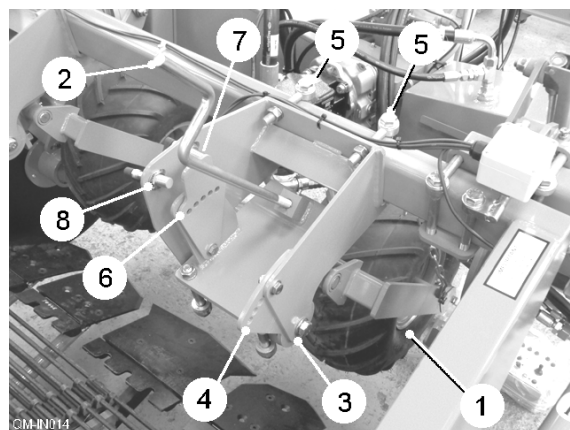

Fig. 5
The depth wheels (item 1, fig. 5) running on each ridge control the share depth. Their setting is very important to the effective operation of the harvester. The handle (item 2, fig. 5) sets the working depth of the wheels. Turning the handle clockwise decreases the digging depth, turning the handle anticlockwise increases the digging depth.
The wheels are mounted on rubber torsion springs (item 3, fig. 5) which allow the weight to be carried off the wheels to reduce compaction of the ridge, or for additional pressure to be put on the ridge to consolidate it in light conditions when the flow over the shares is poor.
The pressure setting needs to be made when the machine is in work so that the relative working position of the depth wheel to the ridge is correct. By repositioning the pressure-setting quadrant (item 4, fig. 5), weight can be removed from the depth wheel, or extra pressure can be added to the wheel.
Row width settings are adjusted by loosening the clamp bolts (item 5, fig. 5), and sliding the wheel assembly until positioned centrally over the ridge. Repeat for the other wheel ensuring they are set symmetrically about the centre line of the machine.
The AUTO DEPTH function, when activated, automatically lowers the digger until the depth wheels rest on the ridge. As the ridge height changes, the edges of the target plate (item 6, fig. 5) rotate in front of the proximity sensors (item 7 & 8, fig. 5) which then actuate the LH and RH depth rams independently to maintain the correct digging depth in each row.
Initial depth setting should be made with the machine on a firm level surface. Place a 10" (250mm) spacer block under each depth wheel and lower the digger until the shares touch the ground. In this position, adjust the target plate Item 6, fig. 5) to be central between the proximity sensors (item 7 & 8, fig. 5). To allow for a dead-band zone, the sensors are each mounted in a slot. To increase the dead-band, move the sensor away from the edge of the trigger plate. When triggered, a light will appear on the sensor body. A dead-band zone must always exist where the depth roller is able to rise and fall slightly without triggering the depth rams.